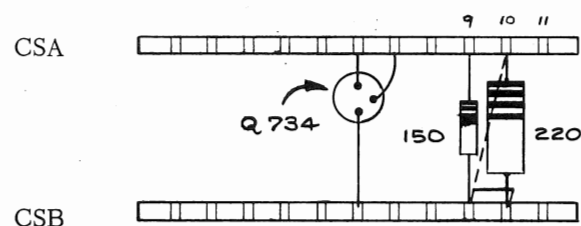

Fig. 2
- ( ) 26. Remove the 220  $\Omega$ , 2w resistor (R744) from CSA-10 of the ceramic strips (see Fig. 2).
- ( ) 27. Move the end of the strap (shown in dotted lines) from CSA-10, trim it and resolder to CSB-10 (see Fig. 2).
NOTE: If your instrument does not have the strap shown in dotted lines between the 150  $\Omega$  and 220  $\Omega$  resistors, as indicated in Fig. 2, disregard steps 26 through 28.